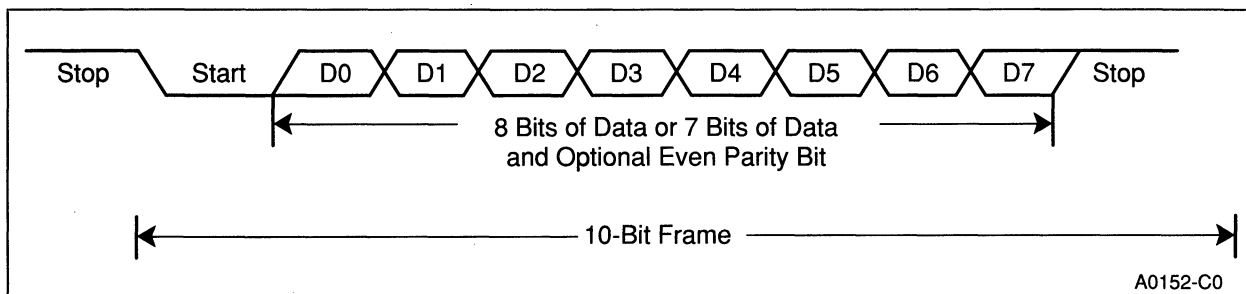

Figure 7-3. Serial Port Frames for Mode 1
Mode 1 is the standard asynchronous communications mode. The data frame used in this mode (see Figure 7-3) consists of ten bits: a start bit (0), eight data bits (LSB first), and a stop bit (1). If parity is enabled, an even parity bit is sent instead of the eighth data bit, and parity is checked on reception.